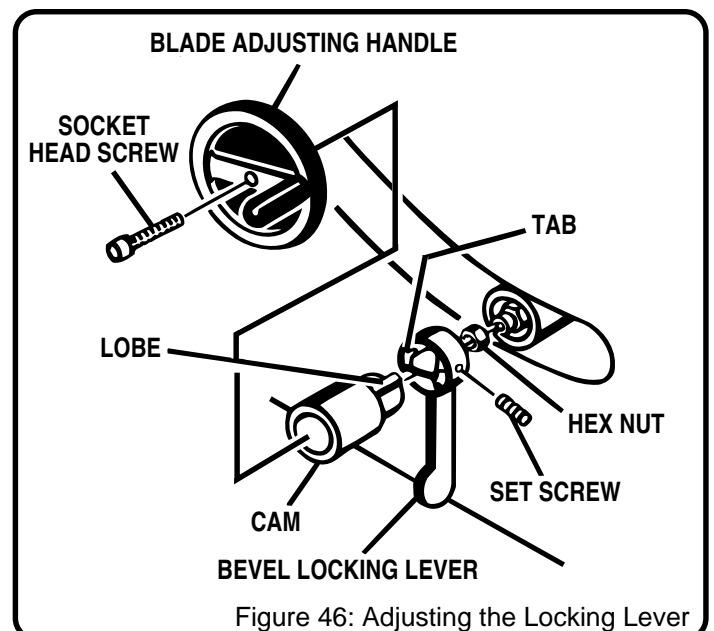

Figure 46: Adjusting the Locking Lever
8. Replace the cam so that the lobe is against the tab as shown in Figure 46. Make sure the cam is seated in the lever.